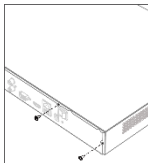

Figure 2-4 Remove Cover
Step 1 Unfasten screws on each panel to remove the device cover. Refer to Figure 2-4.